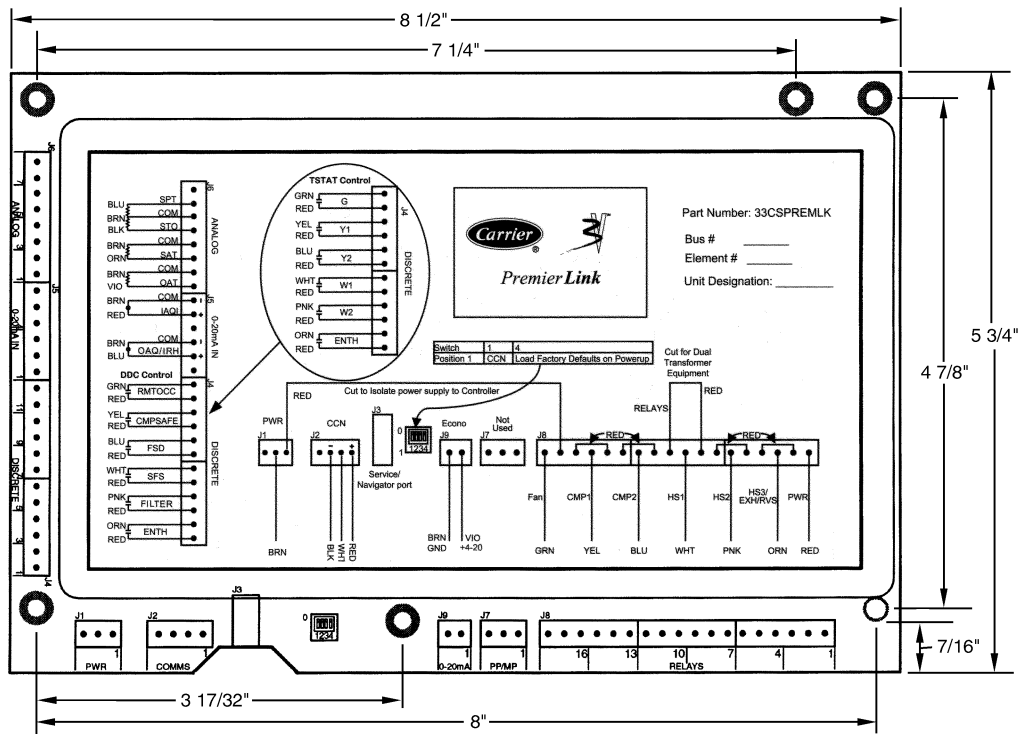

Fig. 1 — PremierLink™ Control
2. Holding the controller upright, align the holes in each top corner of the controller to predrilled holes on unit surface. See Fig. 1.